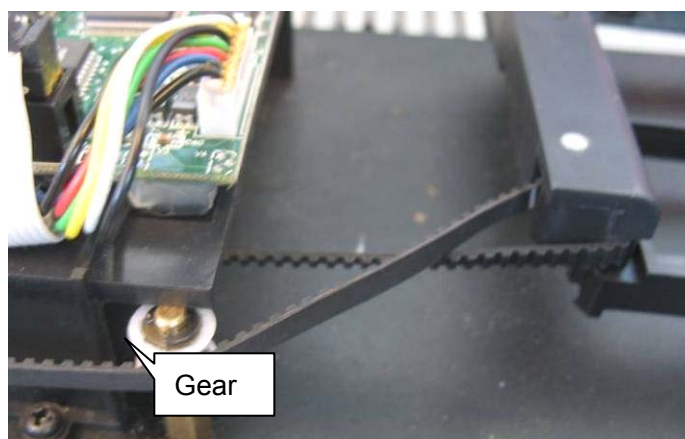

Figure 3-14
- 5、 Upturn the plate carrier, install the belt to the gear on the plate carrier motor at left side, as shown in figure 3-14.